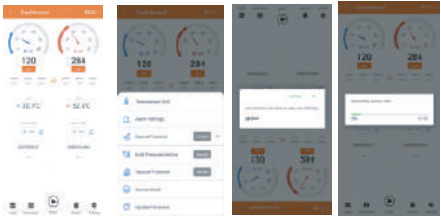

Figure 10 Device firmware upgrade
- 3.If the latest firmware needs to be upgraded, the device will enter the upgrade process , and the interface will show that Update... (Figure 10 ).